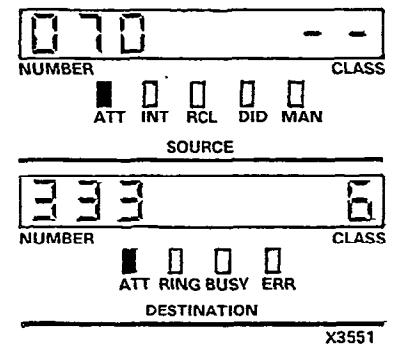

Figure 300-3
- * SOURCE display (Figure 300-3) shows the number of the calling trunk; ATT lamp lit